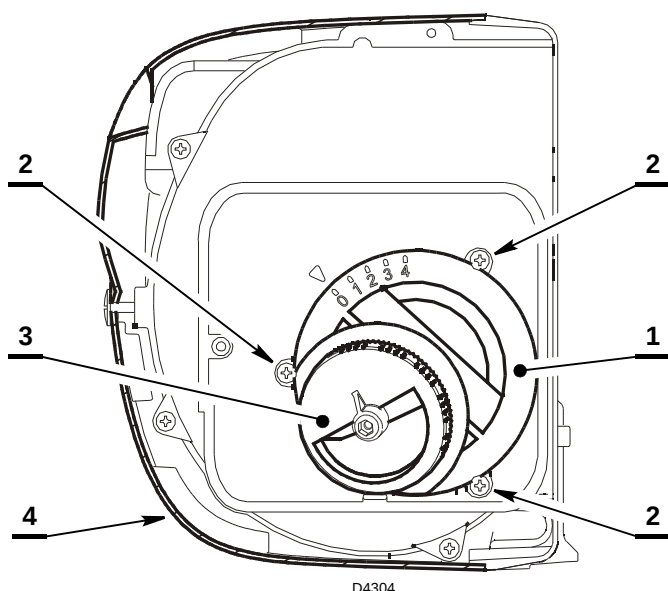

Fig. 17
Depending on burner output, regulate air by rotating the feeder 1) (Fig. 17) and then the knob 3).
- Remove the hood from the burner 1) (Fig. 17), loosen the four screws 2);
- Turn the knob 3) (Fig. 17).
The air inlet must not be blocked in the knob area 3) (Fig. 17), or the aspiration grid area 10) (Fig. 3), except by the cover.
You must not probe inside the knob intake opening 3) (Fig. 17) with your fingers or any sort of tool.